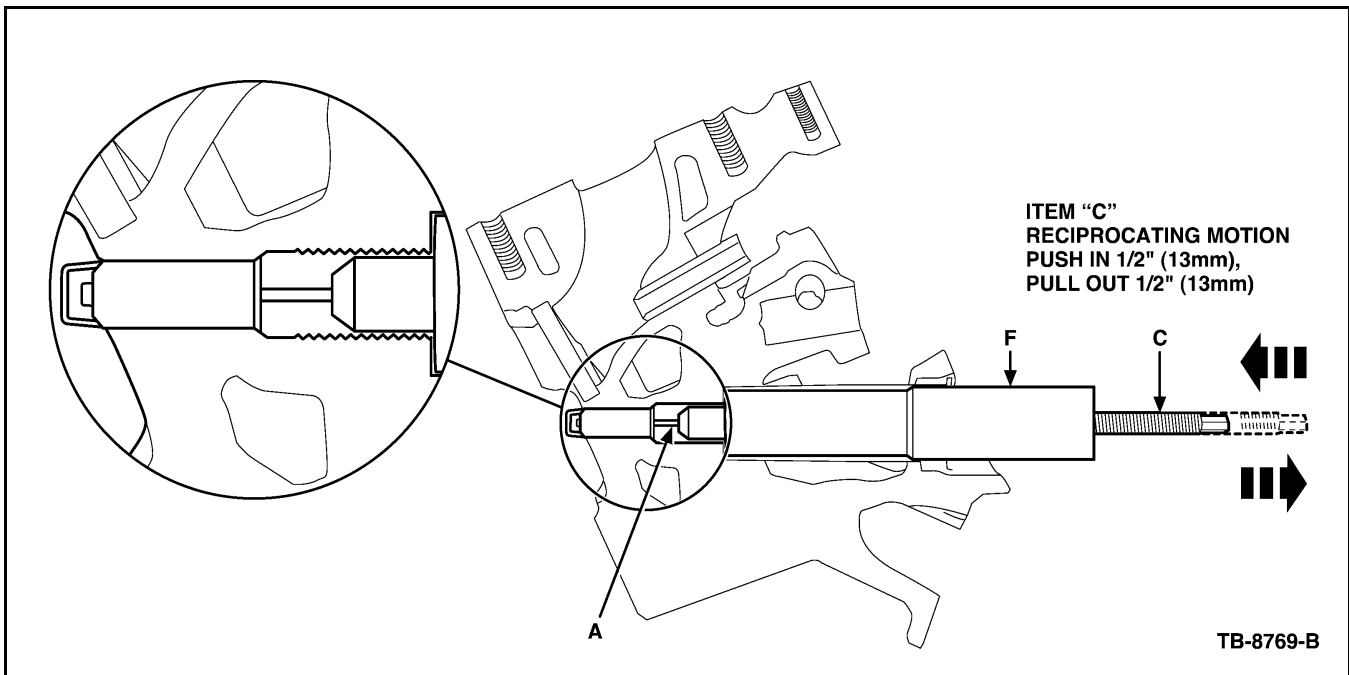

Figure 16 - Article 069-2008-1155
7. Scrub the porcelain inside diameter by moving the threaded rod up and down vigorously. Take care making sure the pin does not disengage the porcelain. (Figure 16).